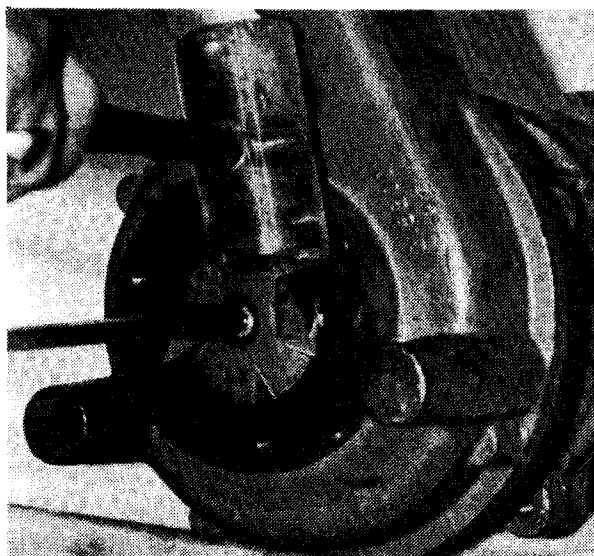

FIG. 6
7. Replace new grinder impeller, use screwdriver in slot while turning on impeller, until hand tight, with screwdriver still in shaft slot bump with plastic hammer. See Figure 6.